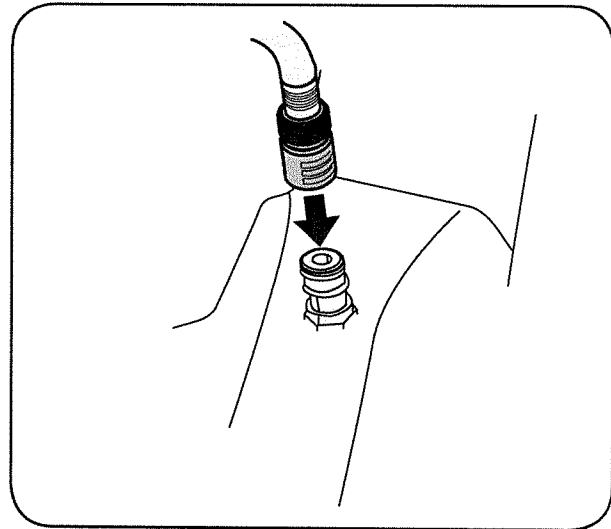

Figure 13
3. Attach the hose coupler to the water port on your deck's surface (Figure 13).